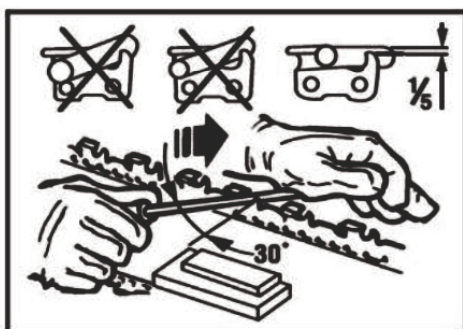

Fig.9
**CHAIN SHARPENING** - The pitch of the chain (Fig. 8) is 3/8" LoPro x .050". Sharpen the chain using protective gloves and a round file of  $\phi 3/16"$  (4.8mm). Always sharpen the cutters only with outward strokes (Fig.9) observing the values given in Fig. 8.